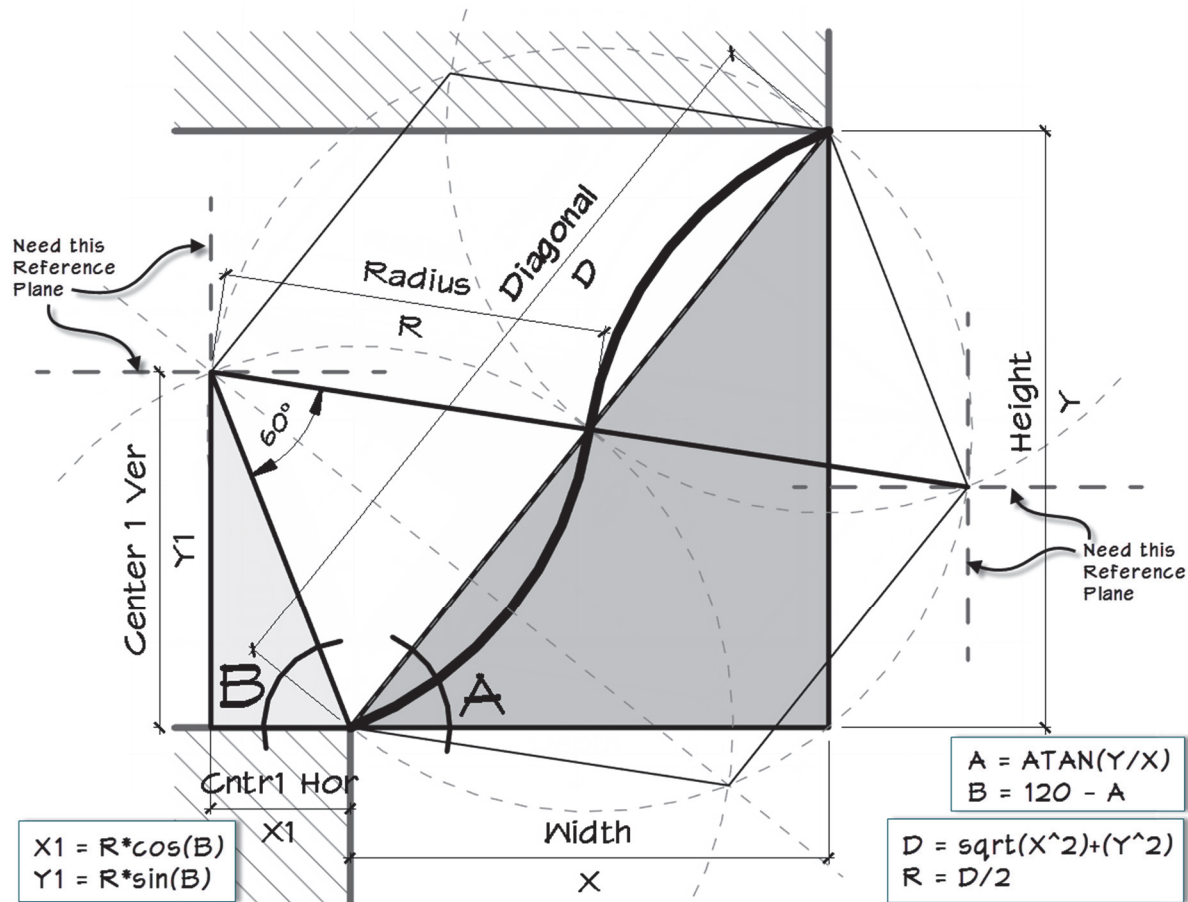

FIGURE 4.38
It just so happens that this construct also creates a regular hexagon whose vertices intersect the circle at the same points. Compare the gray dashed construction arcs in Figure 4.38 with the superimposed hexagon. A regular hexagon can be divided into six equilateral triangles. The sides of these triangles are each equal to half the length of the diagonal (between the Height and Width). This distance (the side of the equilateral triangle) is the radius of the arcs used for the cyma and cyma reversa profiles.
The critical angle is angle B. There are two known angles in its vicinity, the right angle between the reference planes X Max and Y Max and the angle between the diagonal and the top edge of the implied hexagon. The diagonal, as we saw above, is derived from the Height (Y) and Width (X) parameter inputs and the Pythagorean Theorem. As the diagrams in Figure 4.38 (above) and Figure 4.41 illustrate, the diagonal's endpoints form two vertices and becomes the bisector of an implied hexagon. The hexagon's other four vertices determine the locations of the center points of the arcs of Cyma and Cyma Reversa curves. Since a regular hexagon is easily divided into six equilateral triangles, we also know that the angle between the diagonal (bisector) and the hexagon's top edge is 60° . These known angles make it easy to calculate angle B, which in turn gives us the values X1 and Y1 and the locations of the required reference planes.